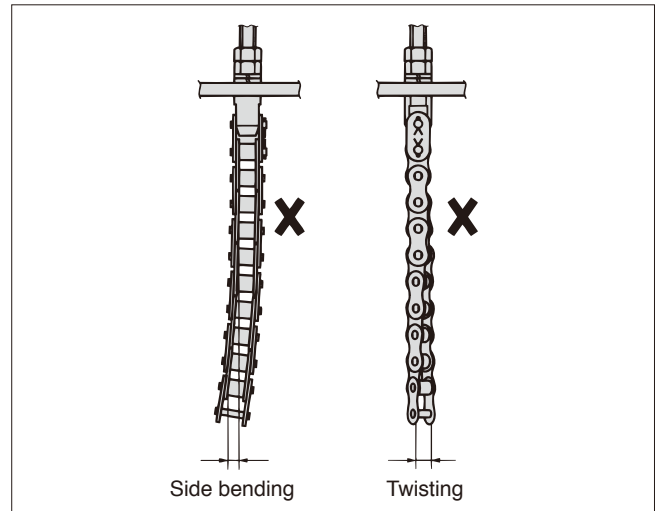

Fig. 46 Twisting of the roller chain
- 4) Inspect for twisting and side bending of the roller chain. If partial twisting or side bending of the chain occurs, the complete roller chain should be replaced. (Fig. 46)